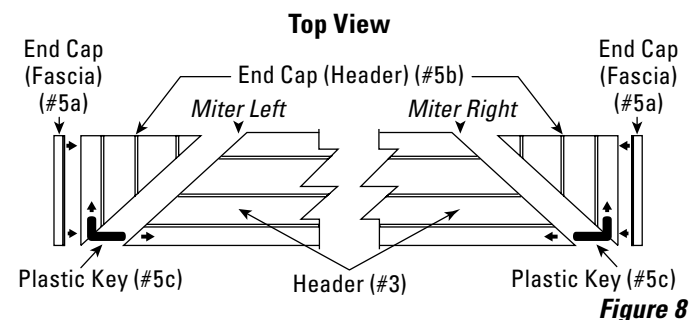
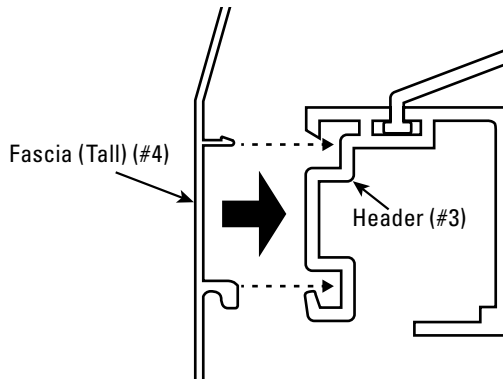

Figure 8
Figure 9
A. Secure the end caps onto the Header. See **Figure 8**.
B. Snap front Fascia (Tall) on to Header and then snap on End Cap Fascia to End Cap Header. See **Figure 9** and reference **Figure 8**.